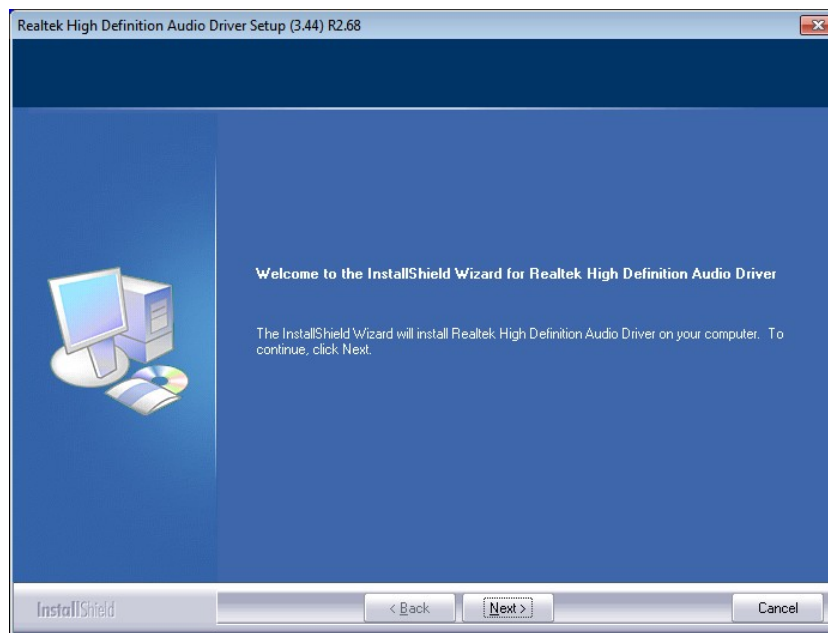

Figure 6-19: InstallShield Wizard Welcome Screen
Step 5: Once initialized, the **InstallShield Wizard** welcome screen appears (Figure 6-19).